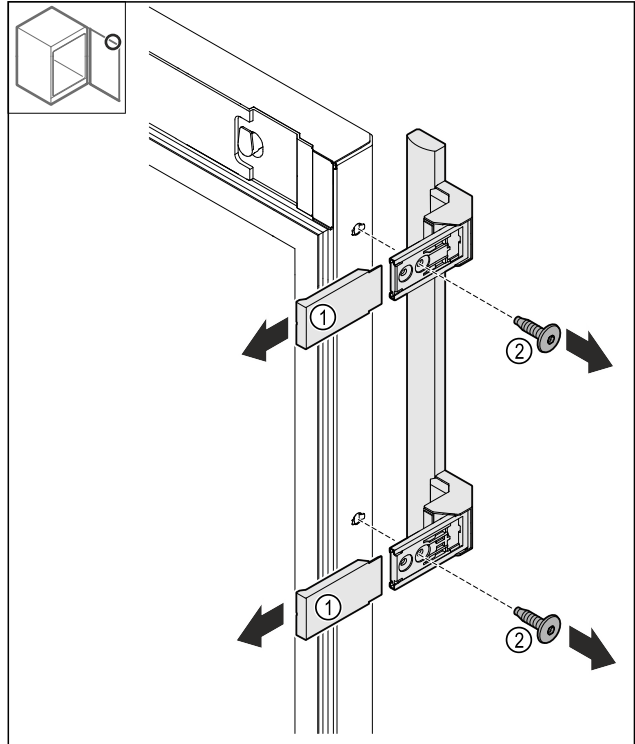

Fig. 15
- Remove the covers Fig. 15 (1).
- Loosen the screws Fig. 15 (2).